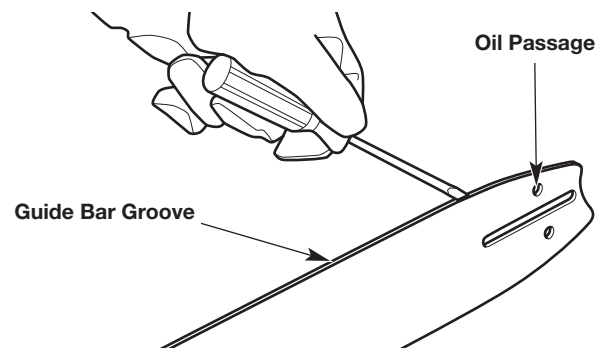
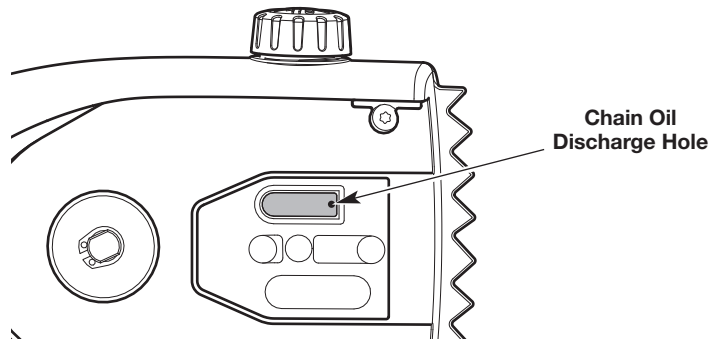

Fig. 37
Fig. 38
2. Clean the guide bar groove and oil passages whenever the saw chain is removed, when the unit has been used heavily or when the saw chain appears dirty. Use a screwdriver, putty knife, wire brush or similar instrument to remove debris from the guide bar groove (Fig. 37). Use a small, soft wire to remove any debris from the chain oil discharge hole (Fig. 38).